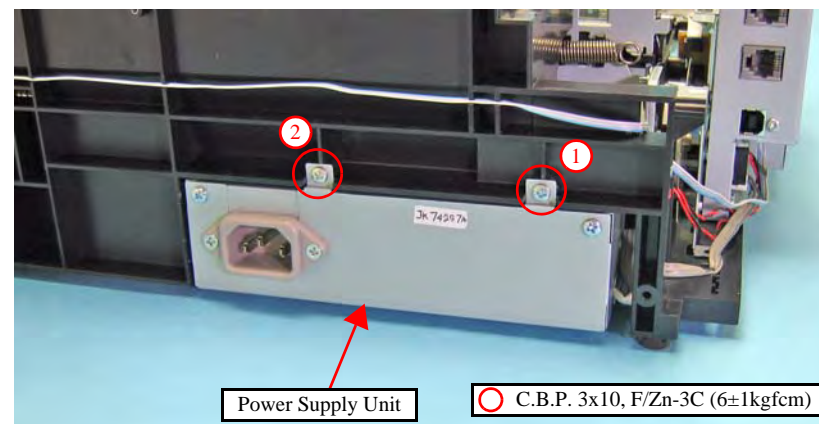

Figure 4-28. Removing the Power Supply Unit (2)
- Tighten the screws in the order given in Figure 4-28.